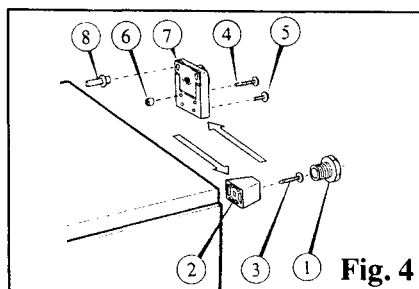

Fig. 4
Remove level adjuster (1) from the small foot assembly. The small foot (2) can now be removed by removing the screw (3). In order to remove the large foot/hinge assembly (7), screws (4 & 5) should be removed making sure that spacer (6) is retained with the assembly (See Fig. 4)
2. Carefully disengage the door from the upper hinge pin (See Fig. 4).